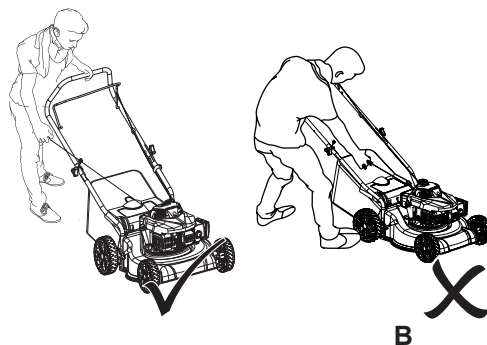

Fig. 17
**WARNING!** The starting position should be as described in the instruction manual. Fig. 17 A illustrates the defined starting position. The operator should start the engine behind the upper handle bar (1). Do not start the engine while standing on the side of the product as shown on Fig. 17 B.